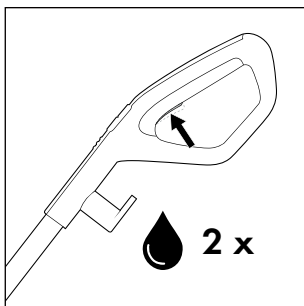
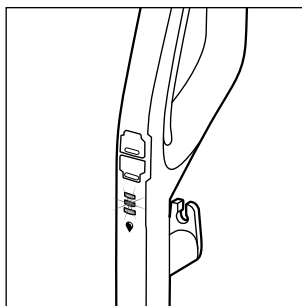

Fig. 14
Fig. 15
- ◆ Before each use, press the cleaning solution switch **15** twice briefly to activate the continuous spray function and add cleaning solution to the rotary brush **6** so that it is ready for operation (see fig. 14). The cleaning solution display  **12** flashes alternately blue when the continuous spray function is activated or the cleaning solution switch **15** is being held down (see fig. 15).